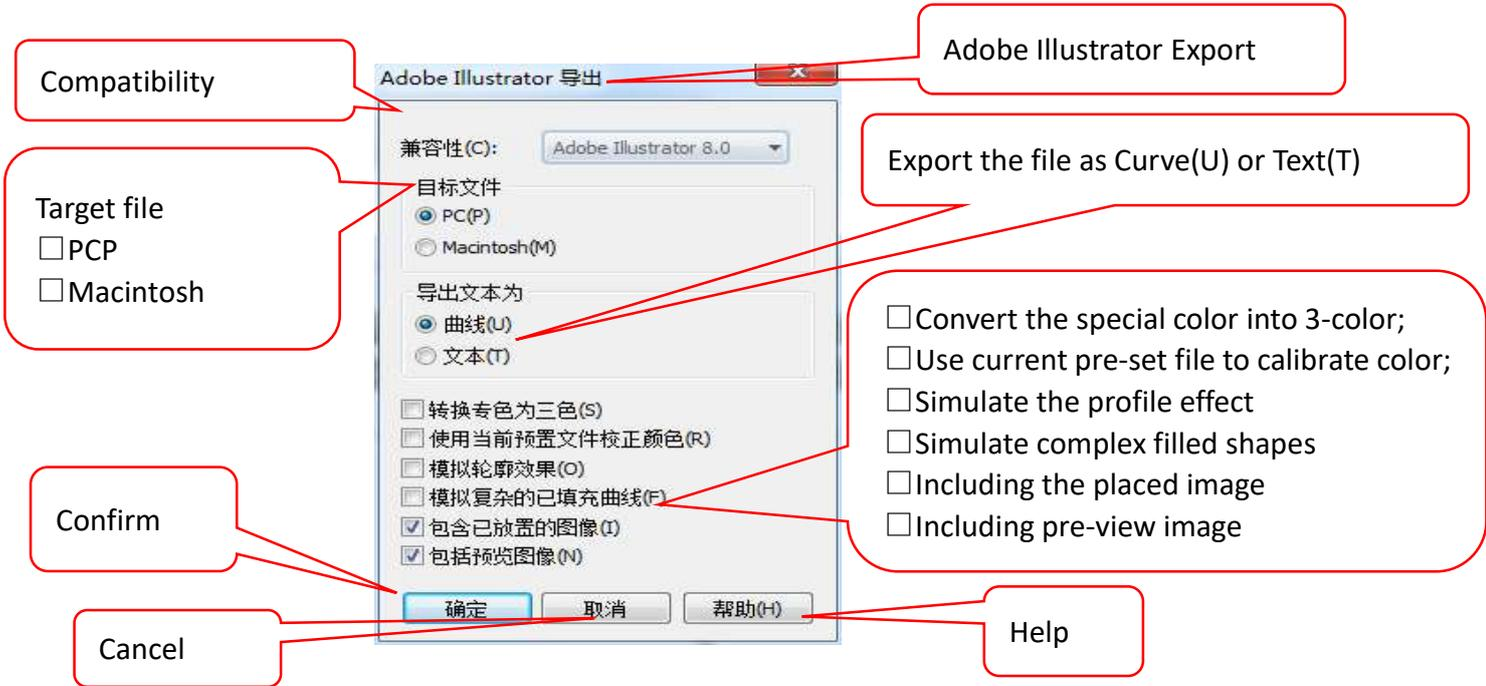

Figure 4-4 AI Export Dialogue Box
Step 4: Click "Export", and a dialog box as shown in Figure 4-4 will pop up. Modify the options according to the content shown in the figure, and then click "OK" to complete the file format conversion. At this point, enter the marking software to import the converted file.